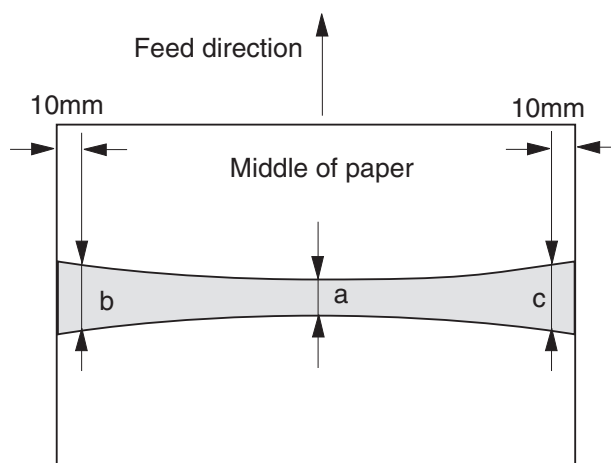

Figure 4-7-1
- 5) Measure the width of the area with shiny toner (Figure 4-7-1), and check to make sure that it is as indicated: